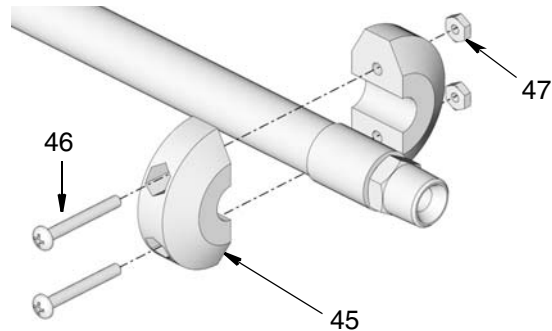

FIG. 4
To remove ball stop: remove nuts (47), screws (46) and ball stop (45) from end of hose (FIG. 4).